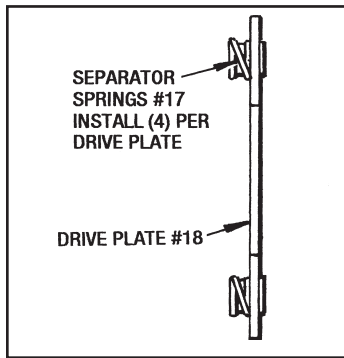

Figure 9.6 - Separator Springs
1. Install (4) Separator Springs (#17) on each Drive Plate (#18). (See Figure 9.6) The springs just snap over the large end of the rivets.